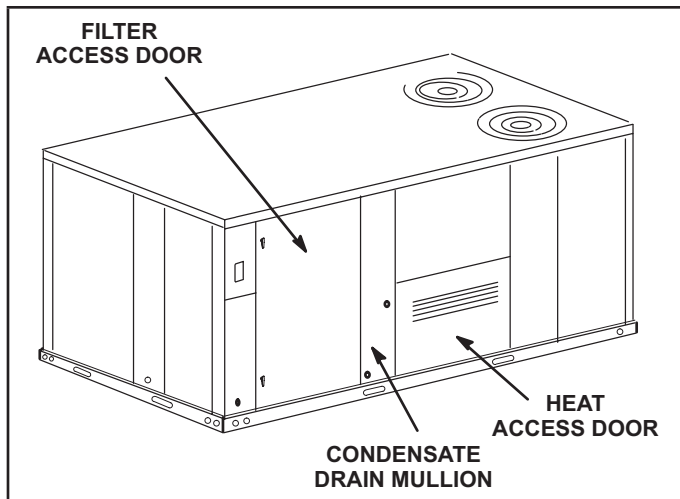

FIGURE 5
- 1 - Remove heat access door. See FIGURE 5.
- 2 - Remove filter access door. Refer to FIGURE 5.